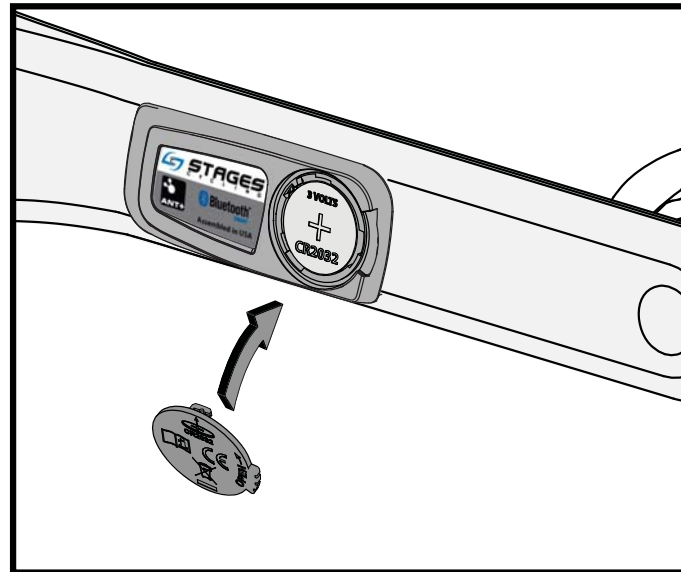

FIG 5
5. Replace the battery covers as illustrated in **FIG 5**.